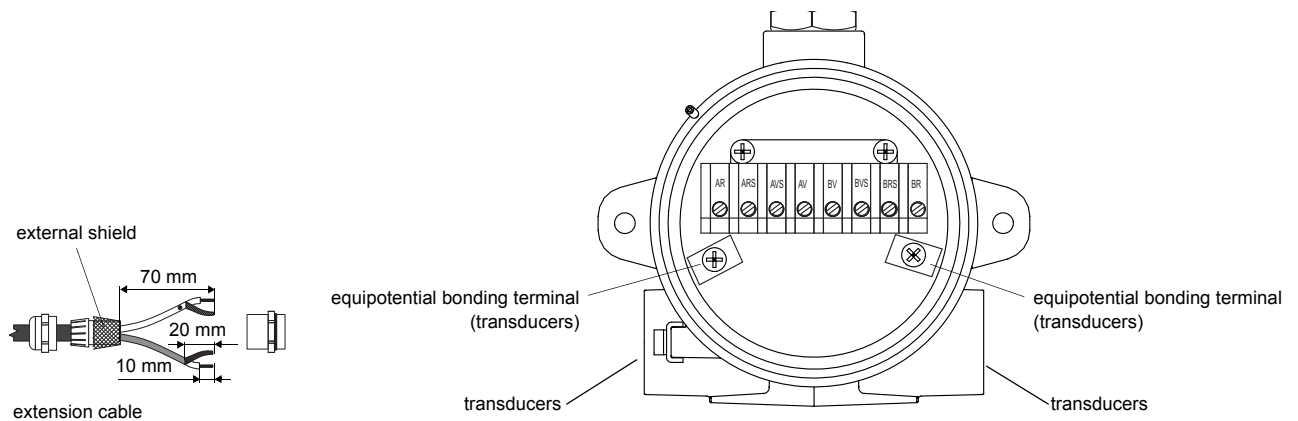

Fig. 7.14: Connection of the extension cable
- Connect the extension cable to the terminals of the transmitter (see Fig. 7.14 and Tab. 7.9).